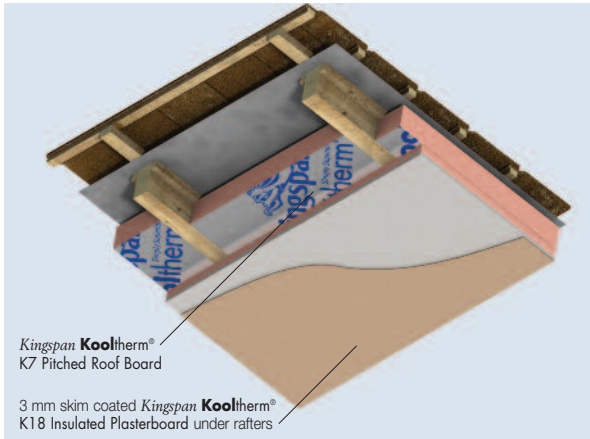

Figure 5 – Mechanically fixed to timber rafters with *Kingspan Kooltherm*® K7 Pitched Roof Board between rafters
- Sheets of *Kingspan Kooltherm*® K18 Insulated Plasterboard may be used to line ceilings (see Figure 5).